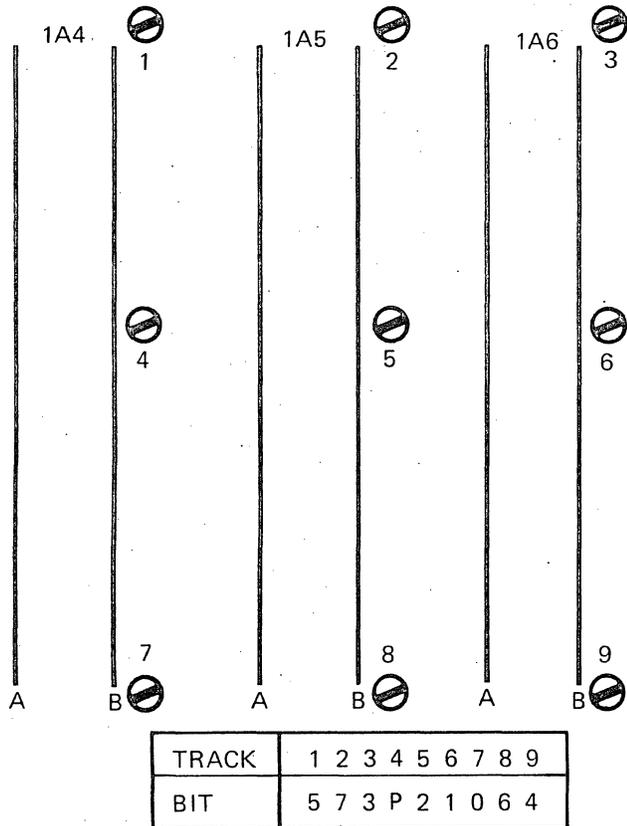

Figure 4-24. NRZI Write Skew Delay Adjustment Potentiometers by Track Location
1. Turn the write skew delay potentiometers listed in Figure 4-24 fully counterclockwise. These are one turn pots and this provides a minimum bit delay.